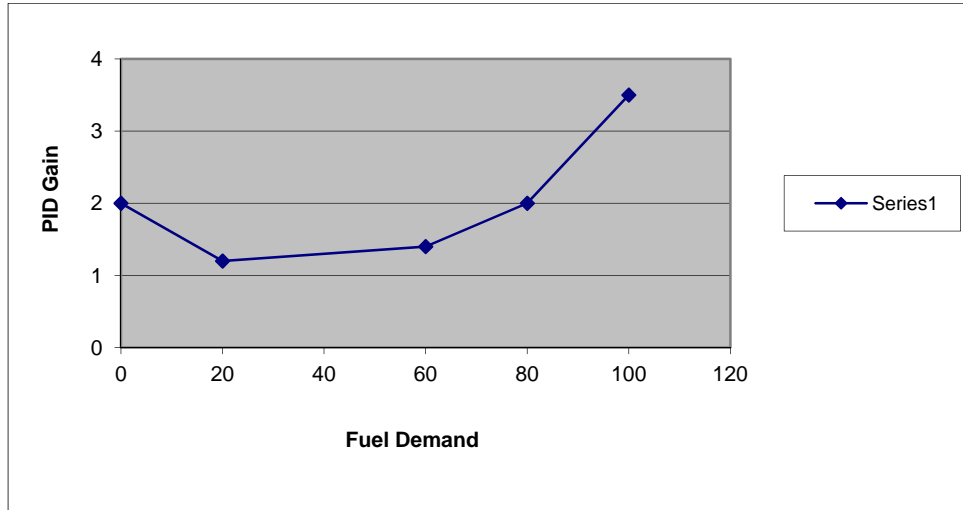

Figure 4-8. Linearized Gain Plot
Note that in both charts the valve position falls on a curve. The menu does not permit the construction of a curve. However, with four slope segments (5 breakpoints) available, a rough approximation of the curve can be created (see Figure 4-8).
Gain settings reflect the sensitivity of the engine load to fuel demand as shown in Figure 4-8. Flat portions of the engine plot will require relatively small values of gain, steep portions of the plot will require larger gain numbers (actuator has to move a lot to pickup small amount of load).
- d. Create a plot of the system by plotting PID GAIN as a function of load. A typical result is shown in Figure 4-8.
- 3. Use the plot of the engine to determine the linearity of the fuel system. This curve should be linearized between inflection points as shown in Figure 4-8.